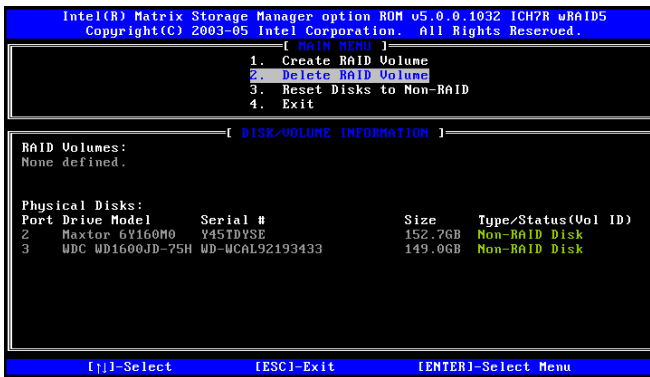

Figure E-11: Non-RAID Disks
Step 4: Non-RAID Disks. After deleting the RAID volume, the disks belonging to the volume will be shown as non-RAID disks. See Figure E-11. **Step 0:**